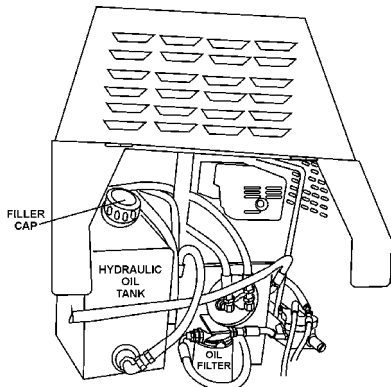

Figure 26. Hydraulic Oil Tank Filler Cap
3. To gain access to the hydraulic oil filler hole (Figure 26), the tub (bucket) must be put in the dump position (vertical). Start the engine as outlined in the starting procedure, then place the tub in the dumping position.